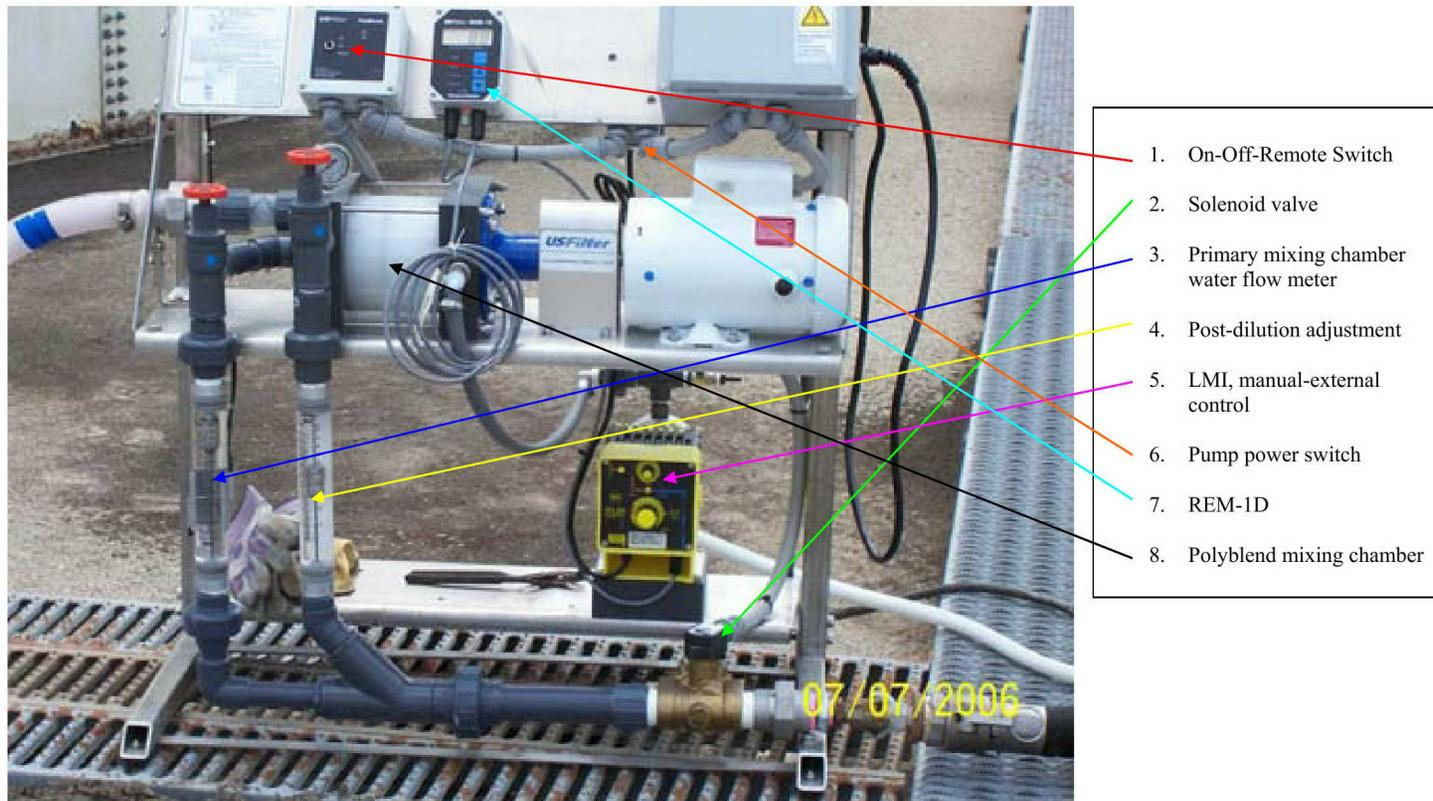

Figure 6.1. WSLP-2400USF startup.
- Turn the system "on-off-remote" switch to the "on" position (Figure 6.1). Solenoid opens and water flow is established.